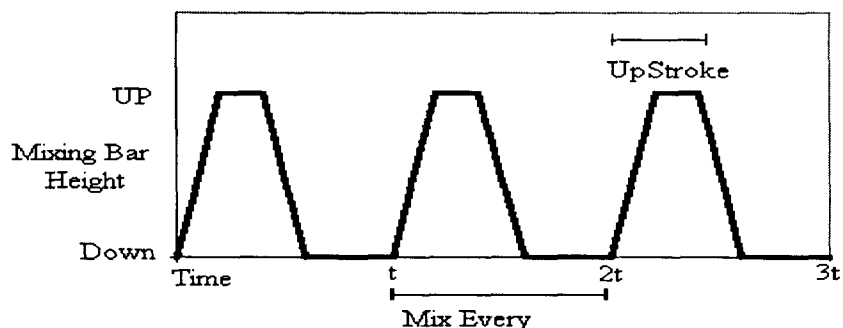

Figure 4-2 Example Agitation Cycle Plot
- The MixEvery parameter is the agitation frequency expressed in seconds, or the elapsed time between consecutive upstrokes (see Figure 4-2).
- The UpStroke parameter is the amount of time the agitation bar will be in the upper position (see Figure 4-2). (This number is necessarily less than the agitation frequency value.)